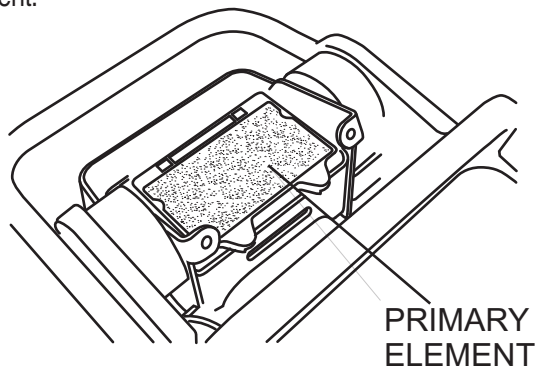

Figure 12. Air Cleaner Primary Element
- Remove the air cleaner cover. Loosen and remove the 2 screws that hold the cover to the air cleaner assembly. If the primary element (Figure 12) is dirty, wash it with gasoline or kerosene. Then dip it in engine oil (SAE 10W-30) and wring the element so that 25 to 30 cc of engine oil remains on the element.